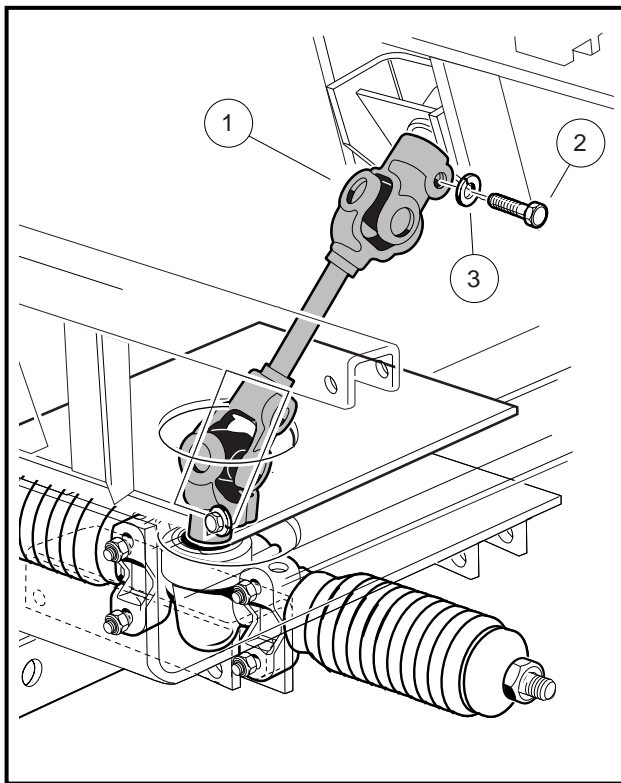

Figure 7-4 Steering U-Bolt
6. Remove the upper bolt (2) and lock washer (3) from the universal joint (1) (**Figure 7-4, Page 7-4**).
8. Disconnect the U-joint (1) from the steering column shaft and remove the steering column from the vehicle (**Figure 7-4, Page 7-4**).
4. Install the bolt (2) and lock washer (3) on the upper universal joint and finger tighten (**Figure 7-4, Page 7-4**).